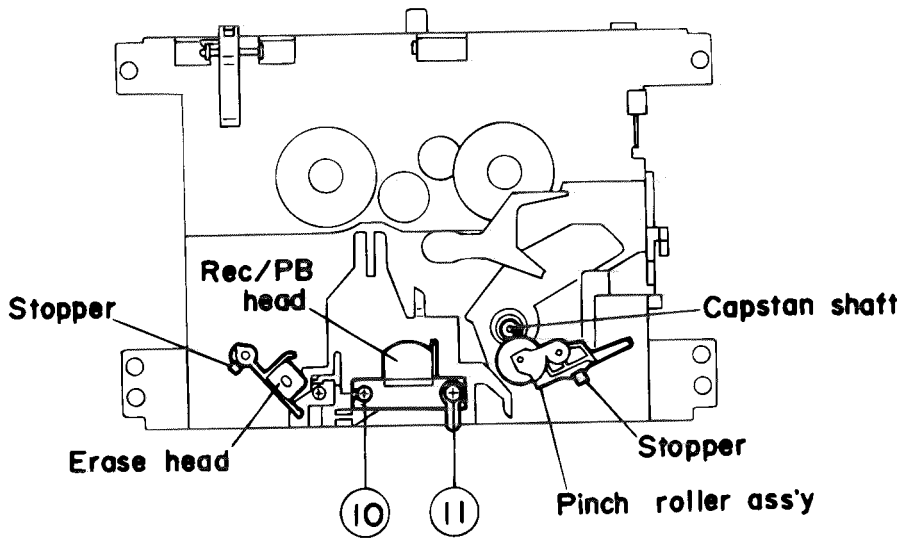
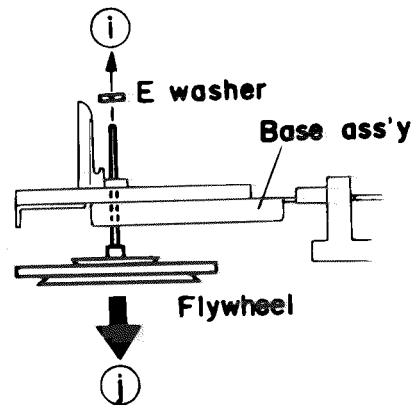

Fig.2-13
Fig.2-16
■ Pinch roller assembly (Fig.2-13 to 2-14)
1. Pull out the stopper protruding from the base assembly in the direction of the arrow ① to remove it from the pinch roller assembly.
2. Then, pull out the pinch roller assembly in the direction of the arrow ②.
■ Rec /PB head and erase head (Fig.2-13 to 2-15)
1. Remove two screws ⑩, ⑪ retaining the Rec/PB head.
2. Pull out the stopper of the erase head in the direction of the arrow ③.
3. Pull out the erase head in the direction of the arrow ④.
■ Flywheel assembly (Fig.2-16)
1. Remove the split washer retaining the flywheel assembly in the direction of the arrow ⑤.
2. Pull the flywheel assembly out of the back side of the cassette mechanism assembly in the direction of the arrow ⑥.